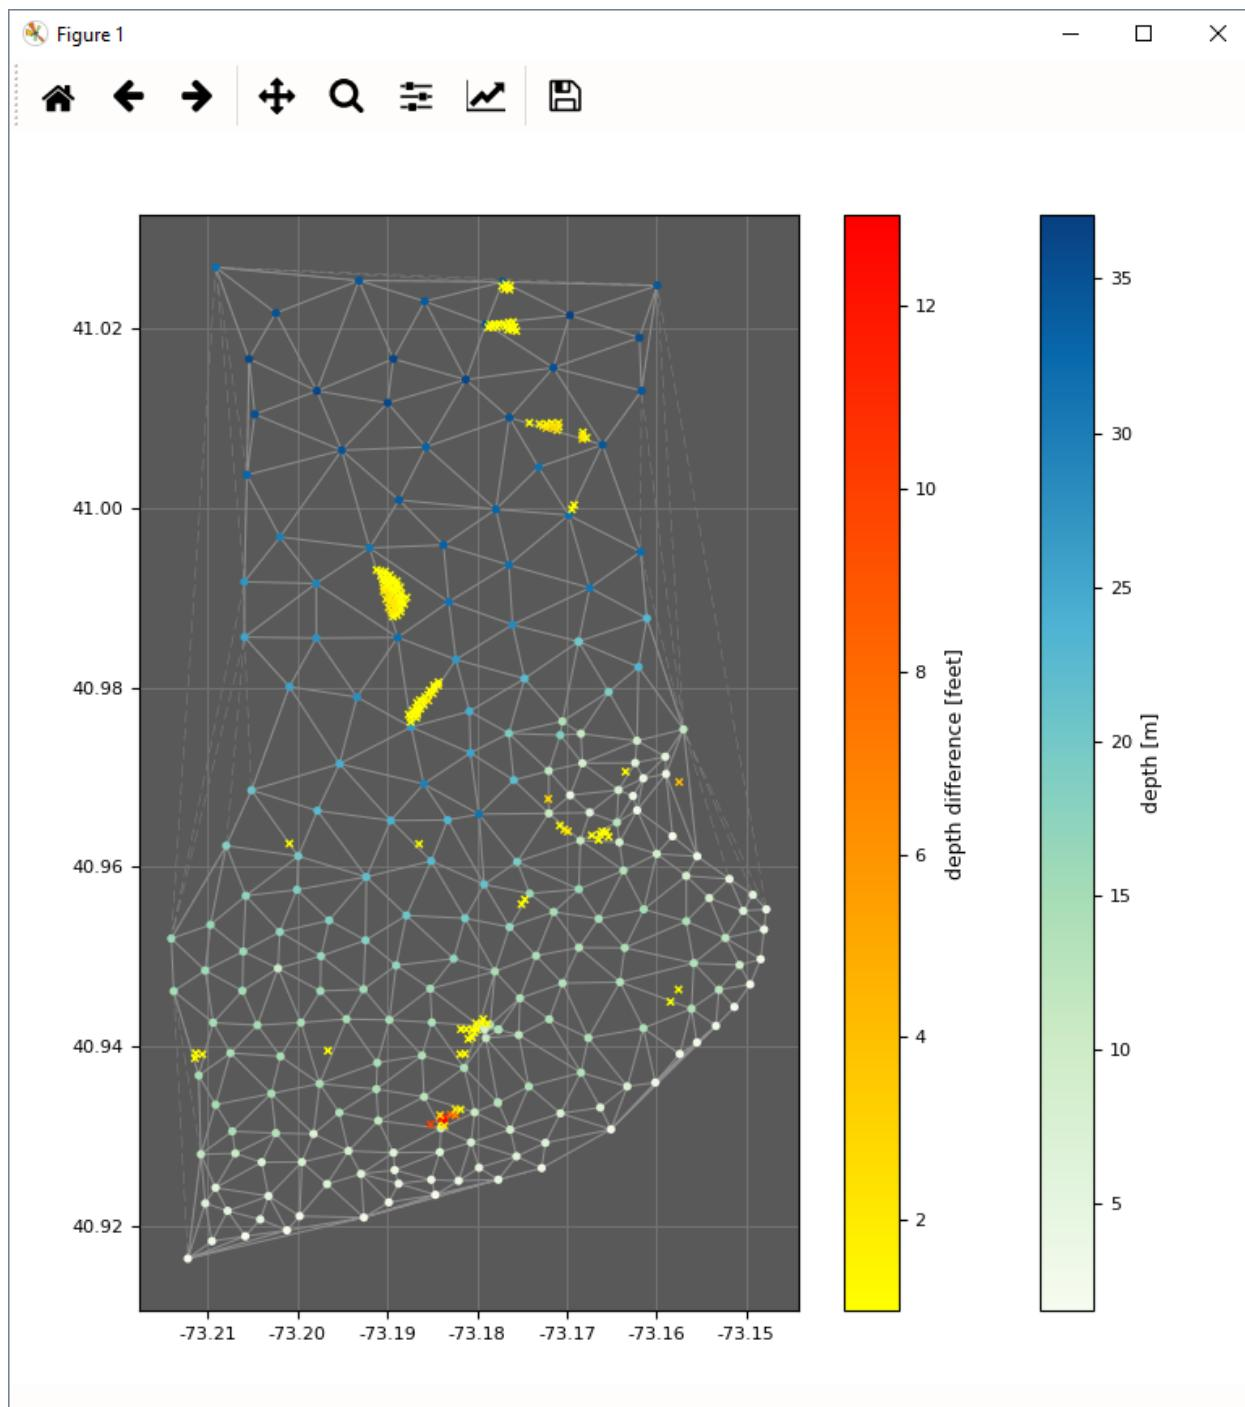

Fig. 2.80: Triangle rule's output display.
- After executing, the results are also shown graphically (Fig. 2.80). Chart-scale soundings are colored by depth, and flagged survey-scale soundings that may not be adequately represented are colored by their discrepancy.